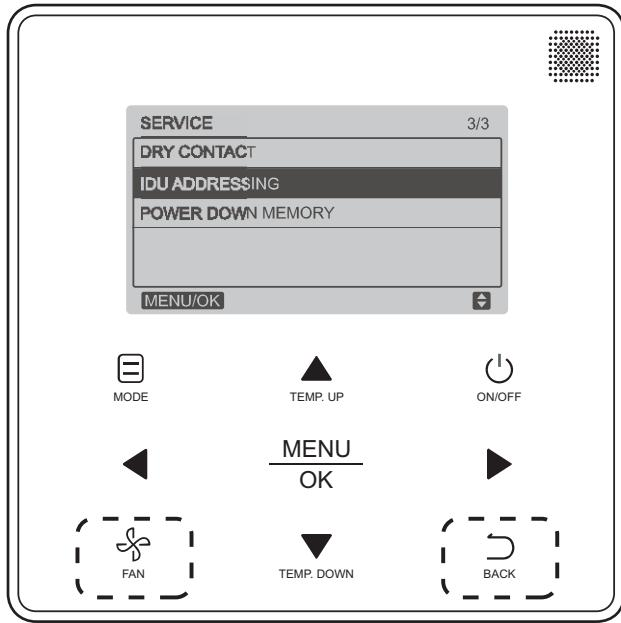

Fig. 47 —Programmable Controller IDU Addressing Menu
1. Press **FAN** and **BACK** simultaneously for five seconds to access the parameter settings as shown in Fig. 47.